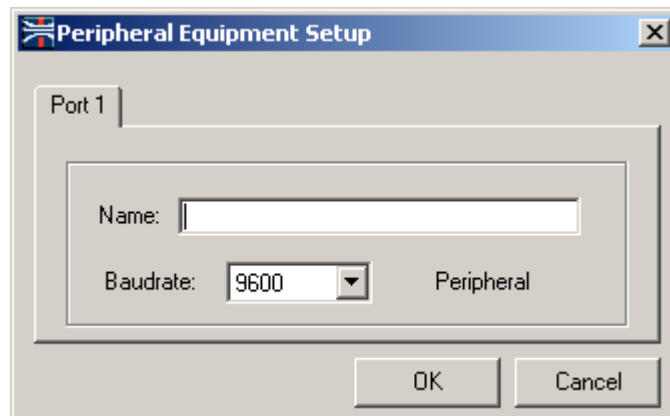

Figure 3 – Peripheral Equipment Setup Panel
- Configure the sPL pass-through peripheral port for 9600 baud and provide a unique name for the repeater that is going to be connected (Figure 3). Then click the “Upload” button to upload these changes to the sitePORTAL Lite. Once the upload is complete, click the “x” in the top right corner or “OK”.